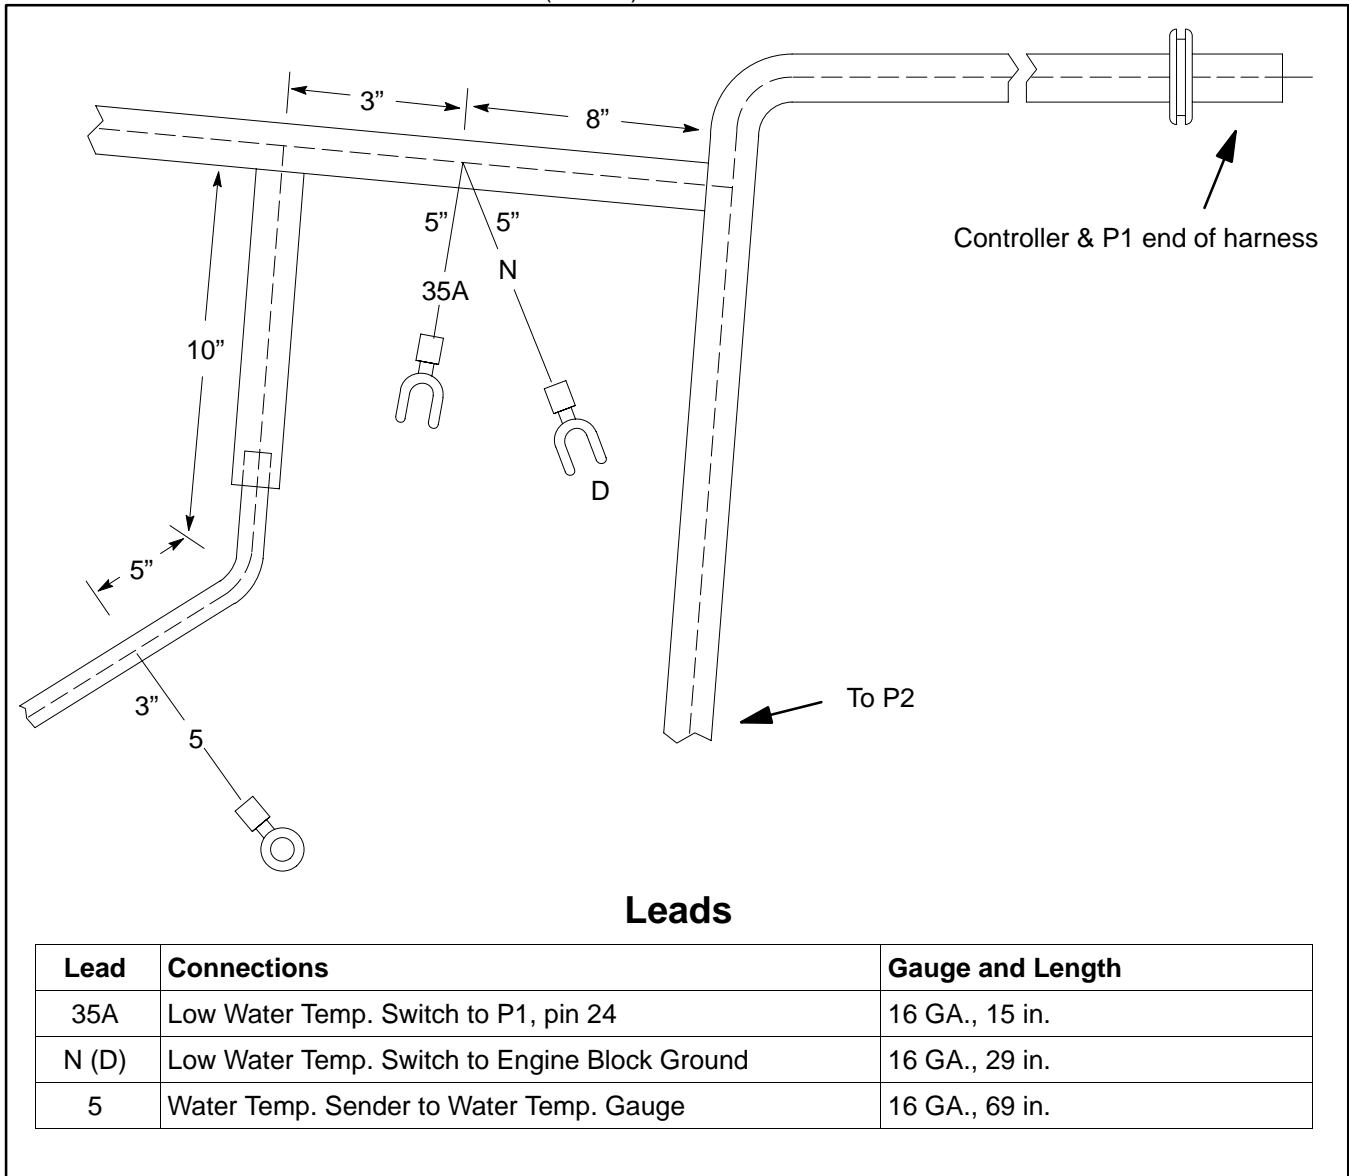

Figure 3. Wiring Harness Configuration and Lead Information.
6. Some units might require rewiring of the engine wiring harness. Figure 3 shows the required wiring. If necessary, modify the engine wiring harness using the diagram and the lead information in Figure 3. Refer to the wiring diagrams in the generator service literature as needed.